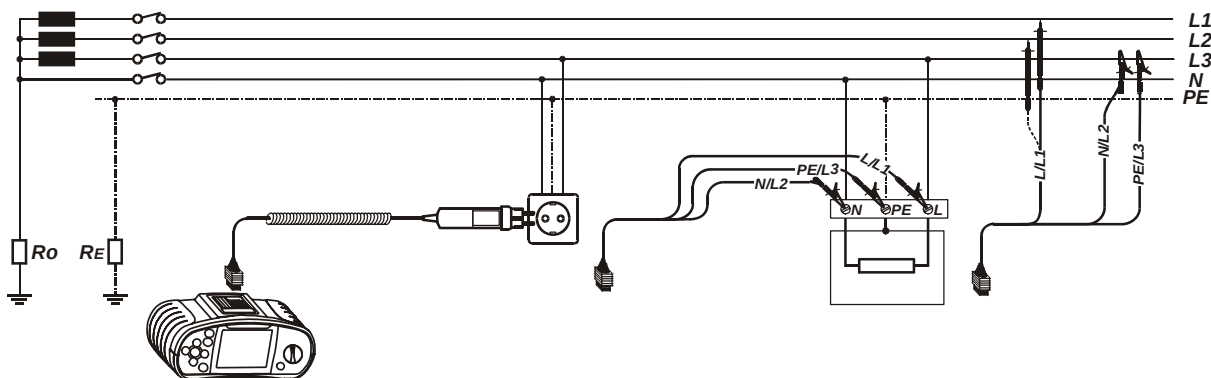

Figure 5.34: Phase-neutral or phase-phase line impedance measurement
Step 2 Connect the appropriate test leads to the instrument and follow the connection diagram shown in figure 5.34 to perform phase-neutral or phase-phase line impedance measurement.